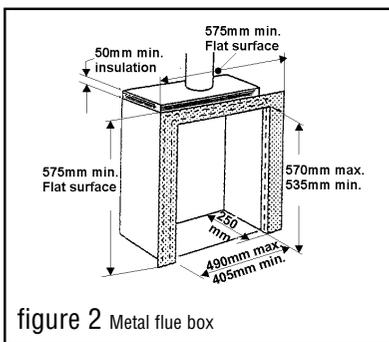

figure 2 Metal flue box
- 2.10.2** A twin wall metal flue system conforming to BS715, the flue Diameter being a minimum of 125mm (See figure 2) with a minimum internal depth of 250mm. Incombustible mineral wool insulation of not less than 50mm thickness must be applied to the top surface of the system firebox and must stand on a non-combustible base of 25mm thickness.